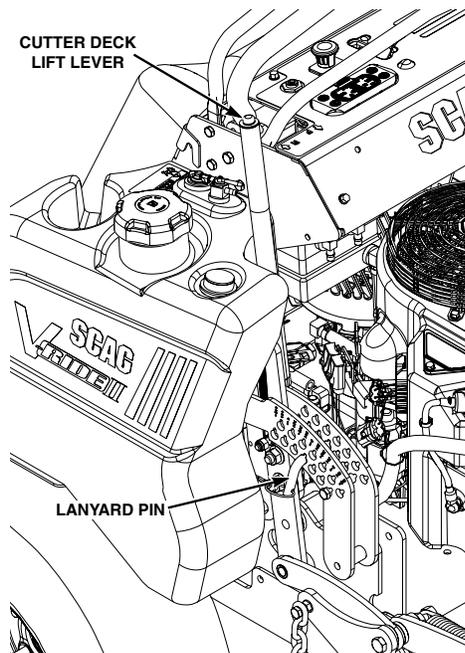

Figure 4-6. Adjusting Cutting Height
2. Pull the cutter deck lift lever all the way backward until it locks in place. See Figure 4-6.
3. Insert the lanyard pin into the cutting height index at the desired cutting height. Pull backward on the cutter deck lift lever, push and hold the lock button See Figure 4-6. Slowly release the cutter deck lift lever. A deck height decal is located on the cutting height index as an aid in adjusting the deck to the desired height.